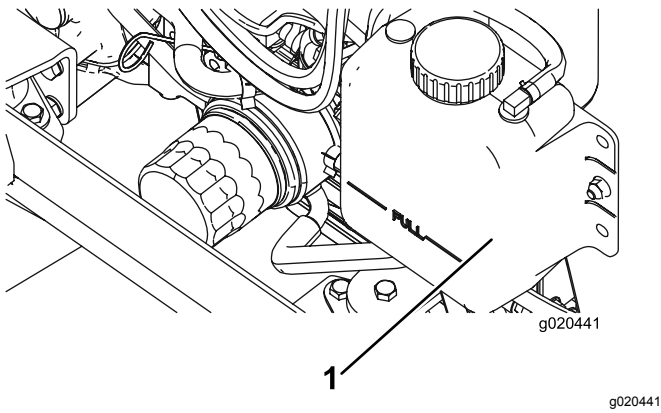

Figure 12
1. Carefully remove the radiator cap and expansion tank cap (Figure 12).